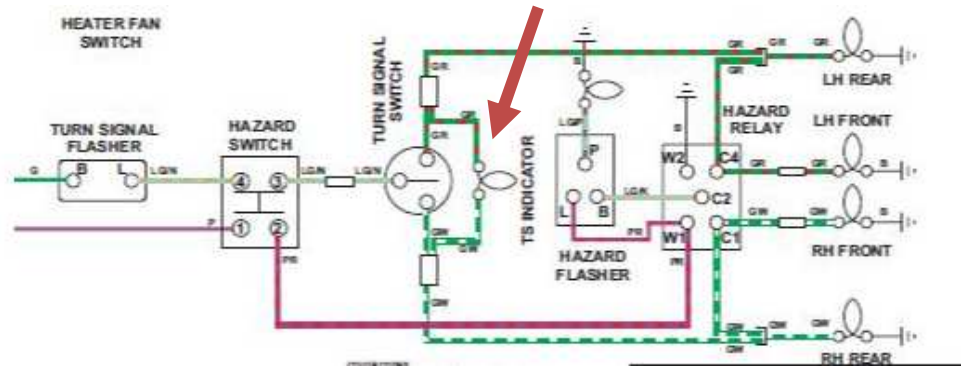

Figure 1 - Original wiring Early TR6
There are a few challenges when replacing lamps with LEDs in your TR6. You may run into a couple of problems if you are trying to upgrade your dash turn indicator to an LED or you are replacing your exterior turn lamps with all LEDs and both left and right sides flash when turn switch is on. These problems are caused by lower current LED technology and Triumph wiring the dash indicator across the turn signal switch. See Fig. 1.
**1. Replacing Dash turn indicator** - Because LEDs are typically unidirectional, inserting an LED in the circuit of Fig. 1, the Dash indicator will only work in one direction. The fix is to use steering diodes to correct.